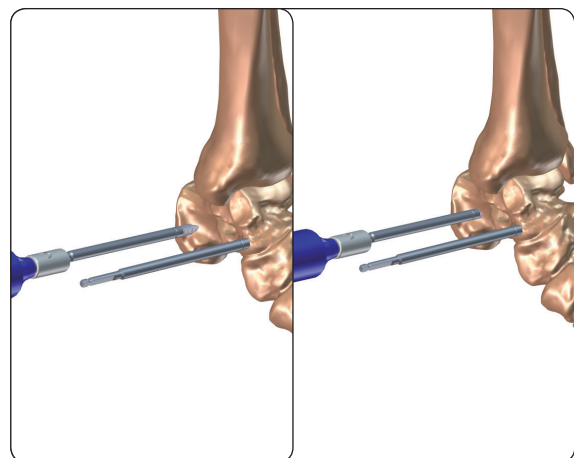

Fig. 8
**WARNING:** The Reference line on the screw must not penetrate deeper than the skin surface. (Fig. 8)